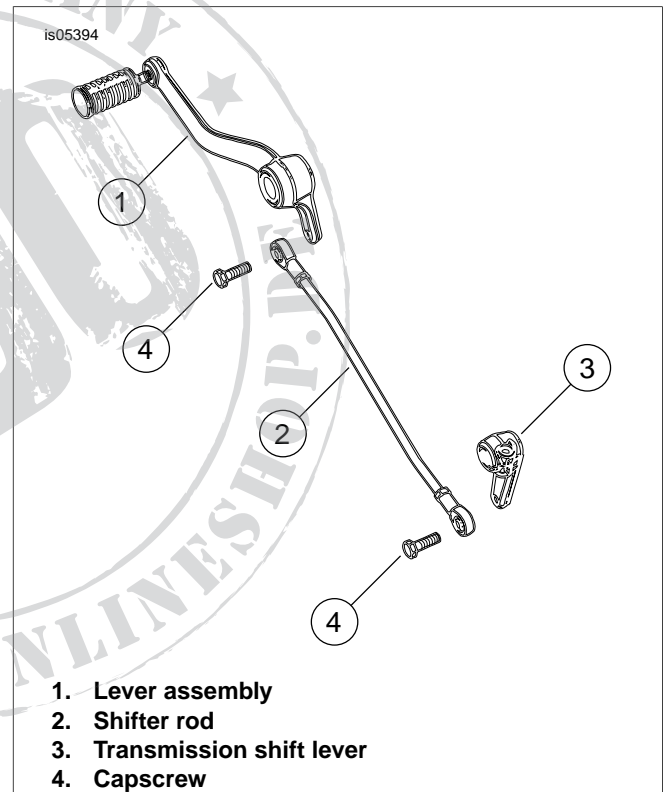

Figure 1. Shift Linkage Components
1. See Figure 1. Remove stock capscrews (4) and stock shifter rod (2). Discard stock capscrews.